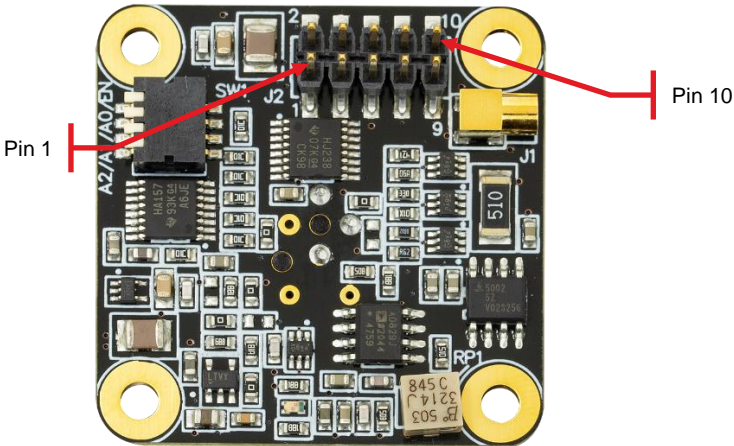

Figure 1 J2 Header
1. The pin out table for the on-board header (J2), Figure 1, is shown in the two tables below:
- 3. Digital gain can be adjusted through the J2 header shown in Figure 1 or using the on-board DIP switch shown below. Each switch is 'Off'/0 when in the up position and 'On'/1 when in the down position.